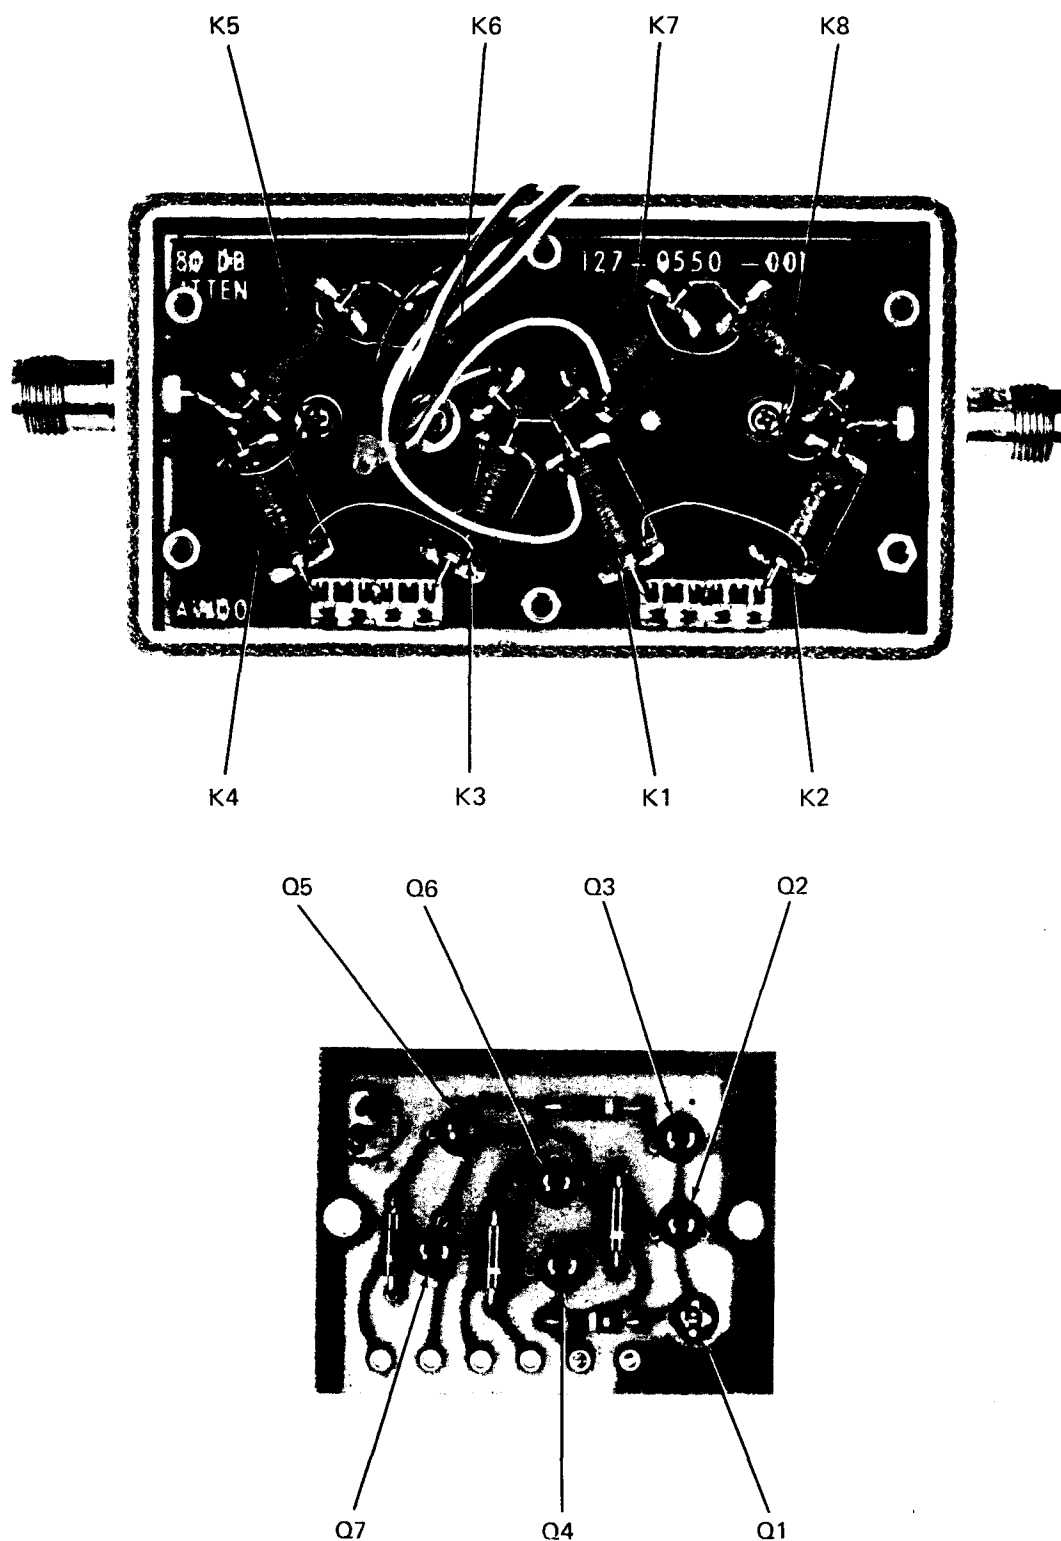

Figure 4-11. 0-80 dB Attenuator A6A1
- m. Malfunctions of this assembly can be located by reference to the assembly schematic diagram in conjunction with the voltage data furnished in Table 4-16. Component locations are shown in Figure 4-11.